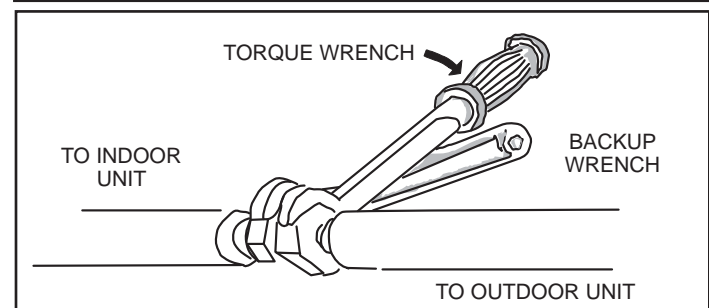
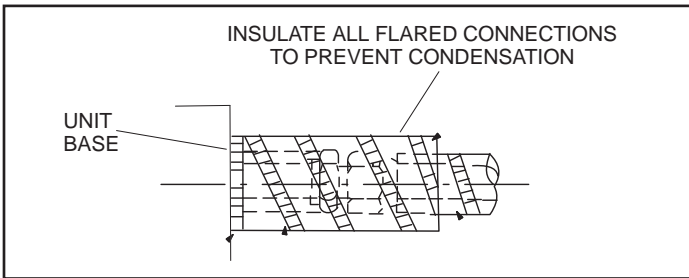

Figure 7. Tighten Flare Nut
Figure 8. Insulate Flared Connections
7. Once snug, continue another half-turn on each nut which should create a leak-free joint. A torque wrench may be used to tighten flare nuts using table 2 recommendations. (see figure 7). Do not over-tighten a flared joint. Flared connections should always be accessible and must be insulated to prevent condensation. See figure 8.